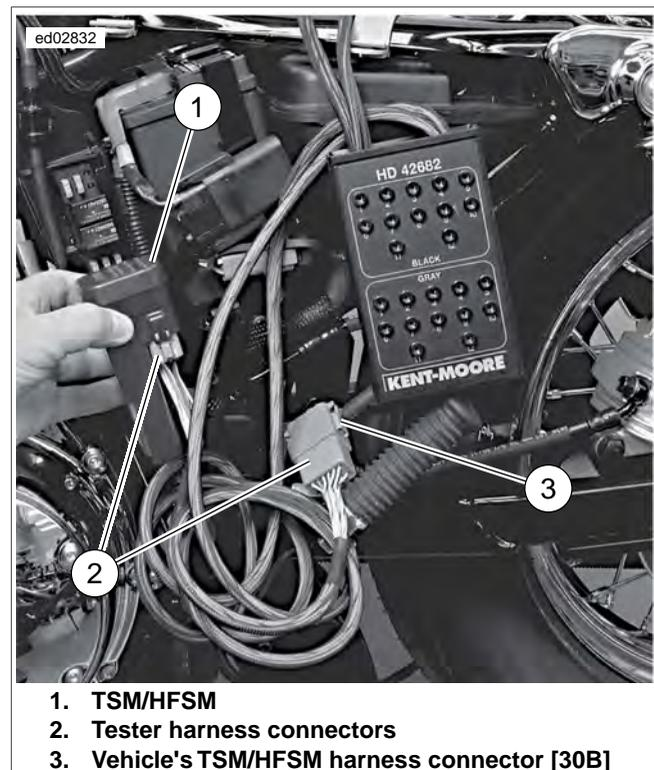

Figure 3-15. TSM/HFSM Location
2. See Figure 3-15. Reach under battery tray and lift TSM/HFSM from cavity in bottom of tray.